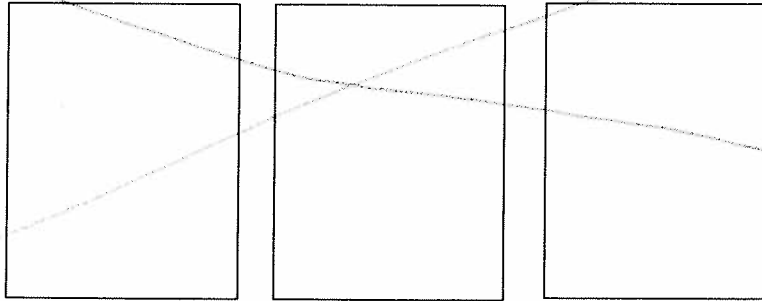

Figure 8-22
9. Look directly into the hook assembly and check the location of the needle's eye compared to Figure 8-22.